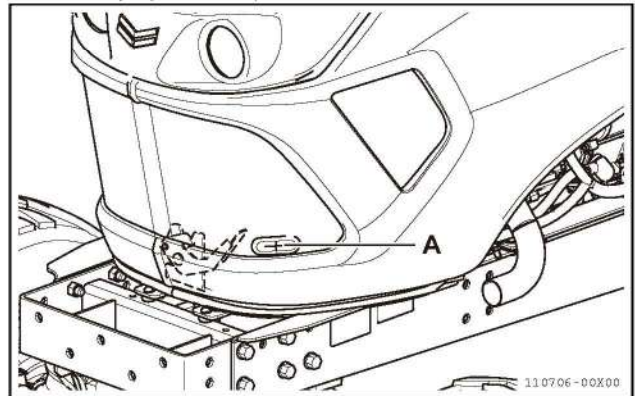

Fig 14-2
3. Insert the hood open bar to the rubber slit of the hood (Fig 14-2, A).